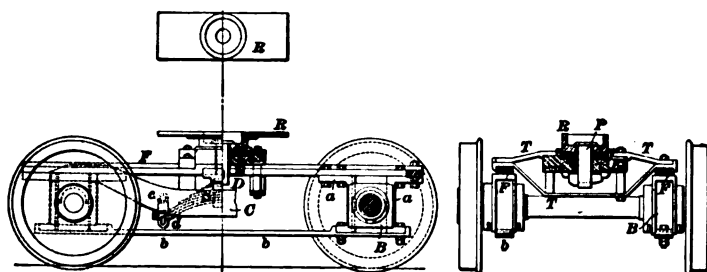

FIG. 29.
**79. Four-Wheeled Truck.**—A four-wheeled truck, or, an independent truck, is shown in Fig. 29. The frame *F* is riveted or bolted to the transverse bars *T*, which support the center casting *E*. The center casting contains three or four